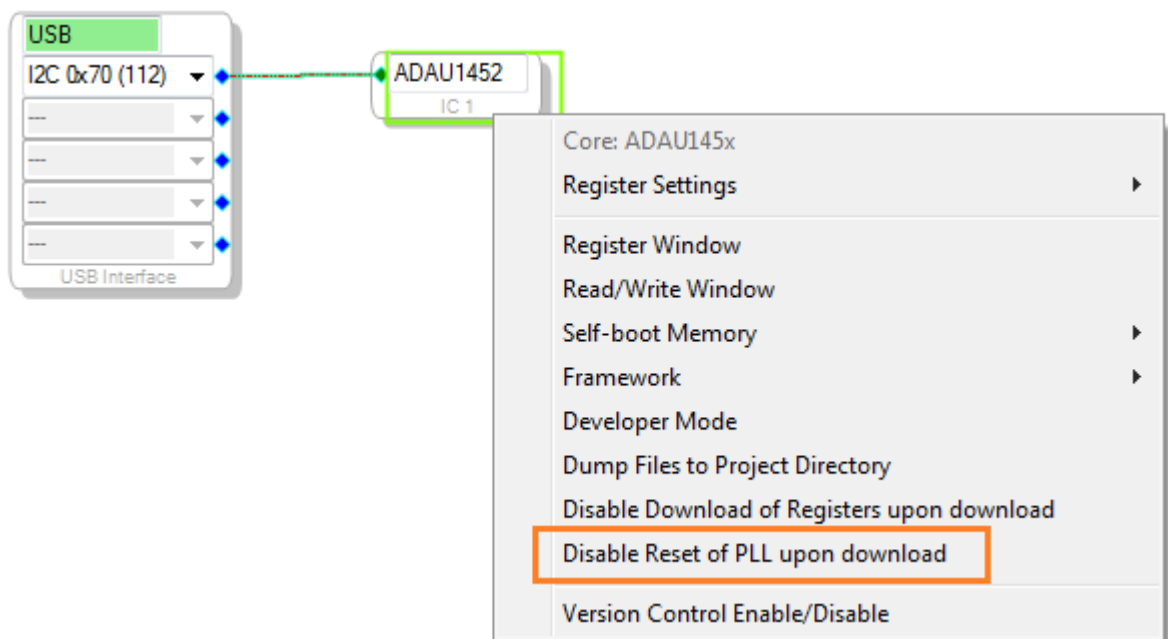

Figure 13: Downloading SigmaDSP without PLL reset
5. In case the SigmaDSP schematic needs to be downloaded without disturbing the already discovered A2B network, then ensure that "PLL reset is disabled" as shown in Figure 13 (This feature is available with SigmaStudio 3.15 release onwards).